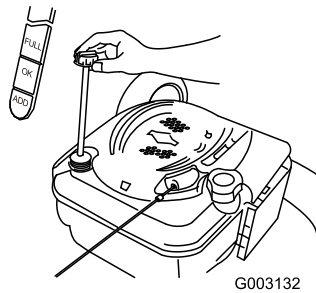

Figure 11
1. Remove the dipstick, wipe it clean, and fully install the dipstick (Figure 11).
2. Remove the dipstick and check the oil level (Figure 11). If the oil level is below the Add mark on the dipstick, **slowly** pour oil into the oil fill tube to raise the oil level to the Full mark on the dipstick. **Do not overfill.** (Max. fill: 20 oz., type: SAE 30W detergent oil with an API service classification of SF, SG, SH, SJ, SL, or higher.)